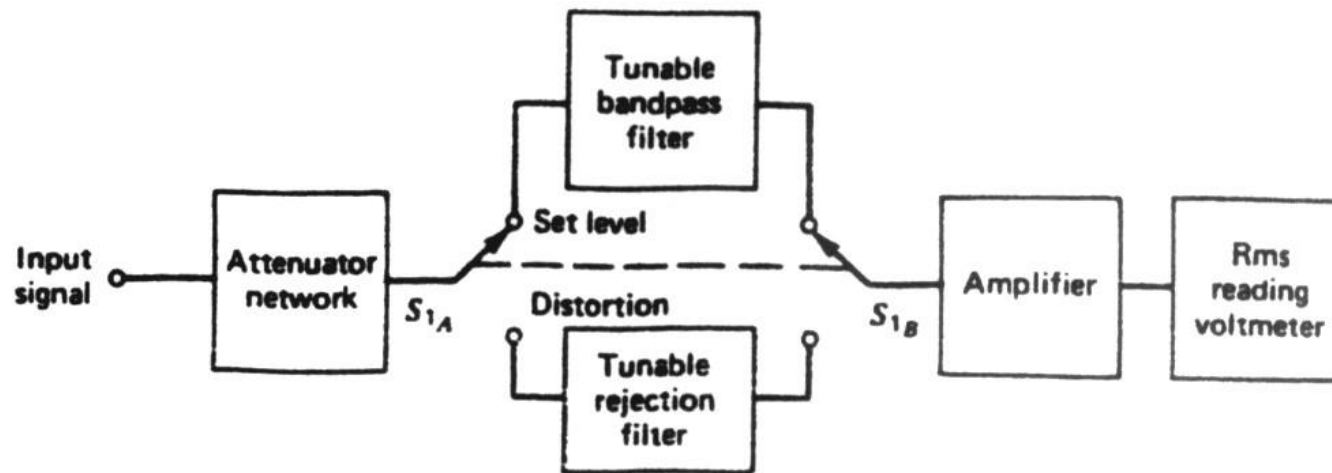

Fig. 1 Block diagram of a distortion analyzer.
- A block diagram for a fundamental-suppression harmonic analyzer is shown in Fig. 1. When the instrument is used, switch S_1 is set to the "set level" position, the band pass filter is adjusted to the fundamental frequency and the attenuator network is adjusted to obtain a full-scale voltmeter reading.